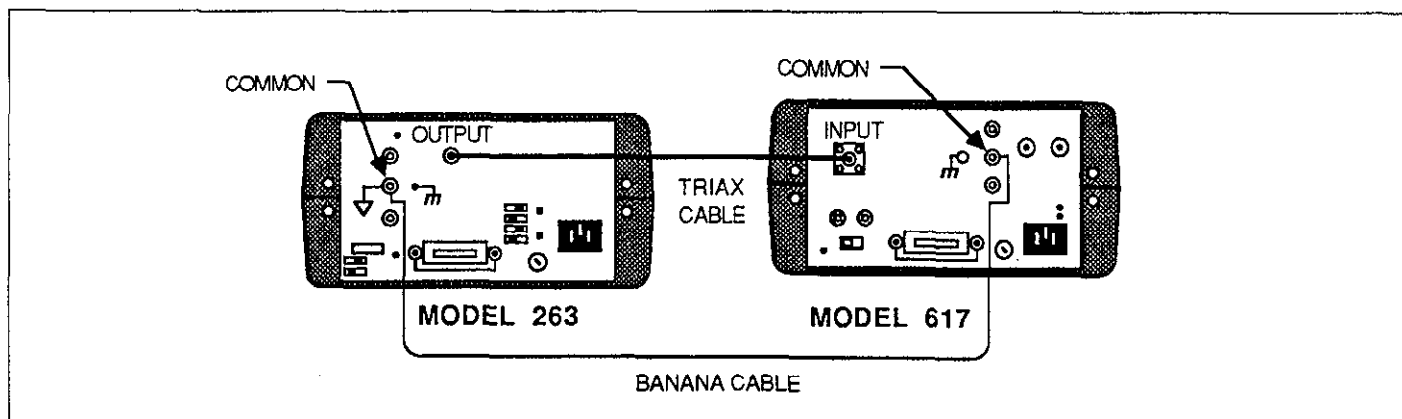
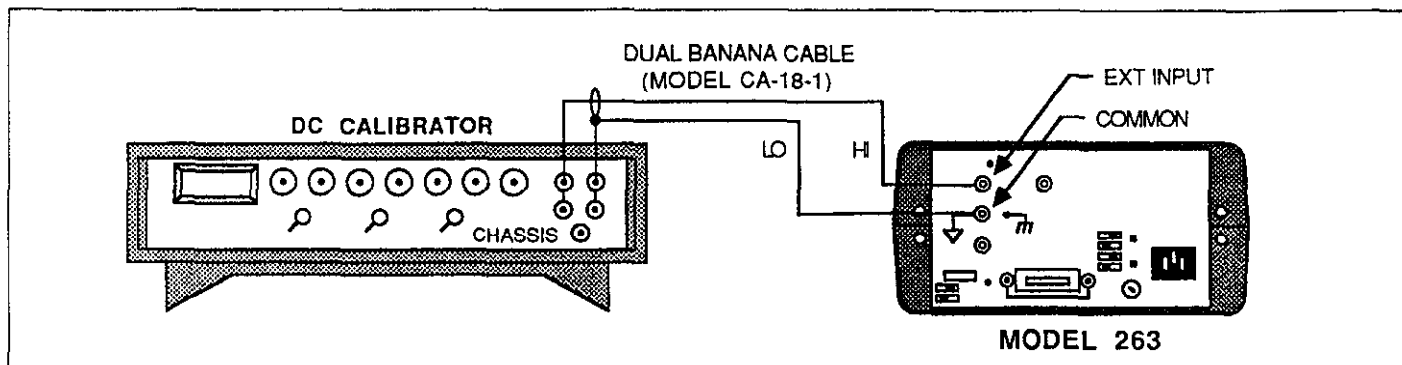

Figure 9. Connections for Model 617 Calibration
Figure 10. Connections for External Voltage Source
1. Connect the Model 263 Calibrator/Source to the Model 617 as shown in Figure 9.
1. Connect the Model 263 to the Model 617 as shown in Figure 9.
11. With the Model 343A set to zero volts, connect it to the Model 263 as shown in Figure 10. Leave the Model 263 connected to the Model 617 as shown in Figure 9.
20 DISP "CONNECT THE 263 TO THE 617 (FIG 8) AND THE EXT V-SOURCE (FIG 9)."